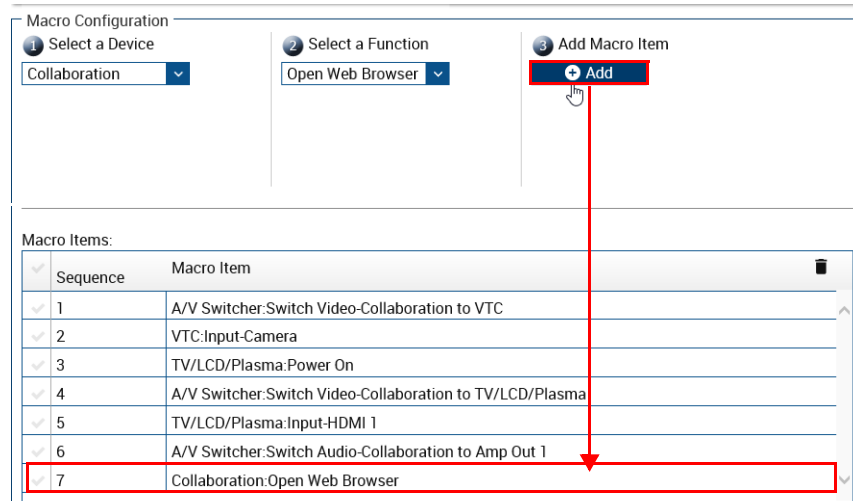

FIG. 61 Macro Details page - Macro Items list
5. Under **Add Macro Item**, click **Add** to add the Macro Item (*Device and Function*) to the bottom of the Macro Items list (FIG. 61):